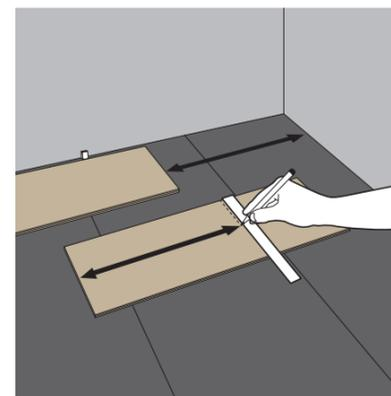

Figure 3
- 5) For the last piece, measure the last plank to ensure a tight fit to the wall. Then cut away the marked piece and fit the end panel in the same way as the previous panels. When cutting the panel with a utility knife, make sure that you cut through the wear layer before breaking the panel. (Figure 3)